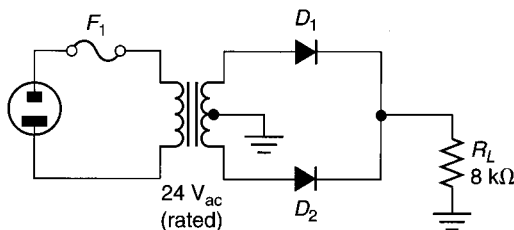

FIGURE 3.56
20. Determine the values of  $V_{L(pk)}$ ,  $V_{ave}$ , and  $I_{ave}$  for the circuit shown in Figure 3.56.
23. Determine the PIV of the circuit shown in Figure 3.56.